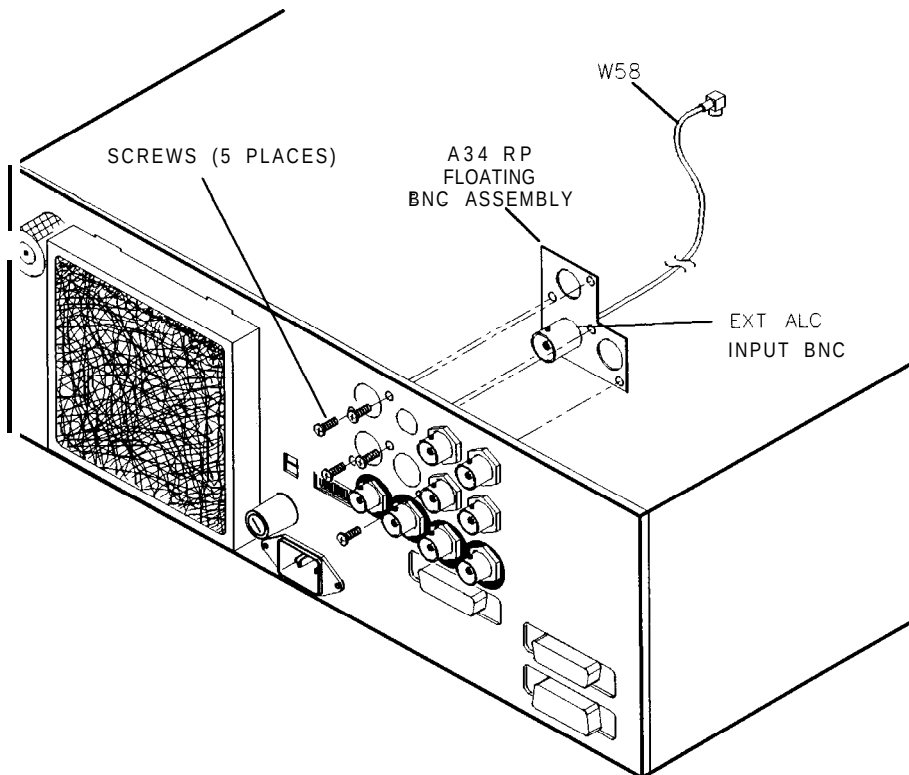

Figure 7-20. Ext ALC Input BNC Connector Removal
1. Disconnect cable W58 from SMB connector A10J4 on the A10 ALC assembly. Refer to Figure 7-20.